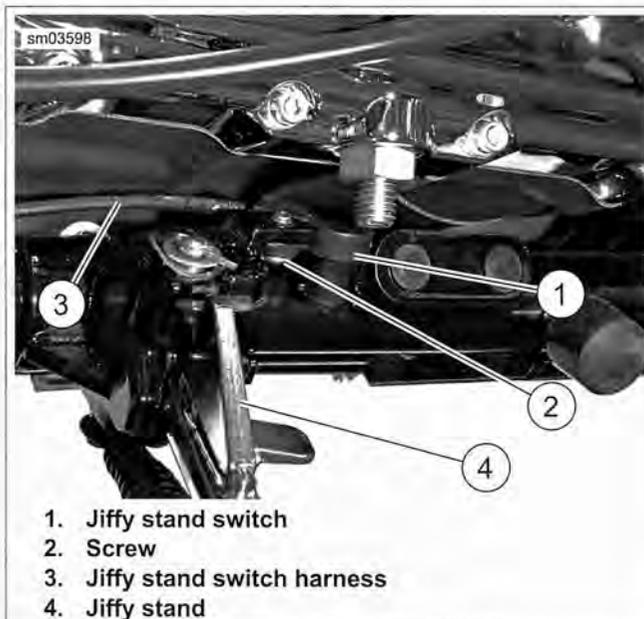

Figure 6-121. Jiffy Stand Switch
See Figure 6-121. International models are equipped with a jiffy stand interlock feature. If the rider attempts to start the engine or pushes the starter button while the transmission is in gear and the jiffy stand is down, the jiffy stand interlock system will not permit the engine to run. The message "SidE StAnd" will scroll across the odometer to indicate this to the rider. Raising the jiffy stand (or putting the transmission in neutral) will permit the engine to run and clear the message.
4. See Figure 6-121. Remove screw (2). Remove jiffy stand switch (1) and harness from vehicle.
1. See Figure 6-121. Install jiffy stand switch (1). Fingertighten screw (2).